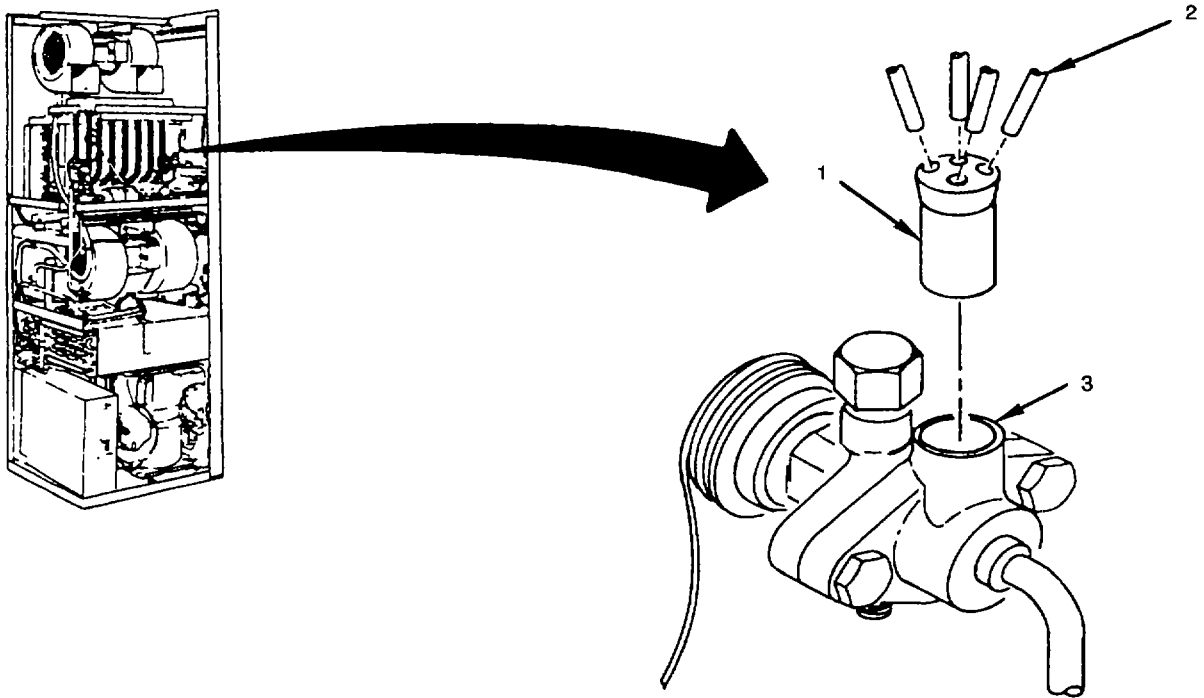

Figure 5-26. Distributor
- (1) Disconnect air conditioner input power at source; and
- (2) Remove return air filter (paragraph 4.26).
- a. Check for signs of leakage (see fig 5-26). Leak test if leak is suspected (paragraph 5.13).
- c. Debraze distributor (1) at valve joint (3) (paragraph 5.12).